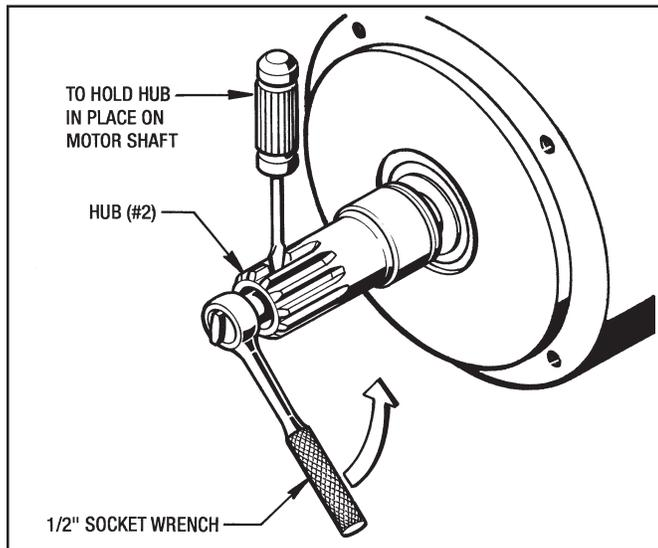

Figure 7.1 - Removing Screw (#94)
1. Place a 1/2" socket wrench over the head of Screw (#94) and at the same time insert a large screw driver into the hub pump opening. Remove the Screw (#94) and Copper Gasket (#30) using the screw driver to hold the Hub (#2) in place on the motor shaft. (See Figure 7.1)